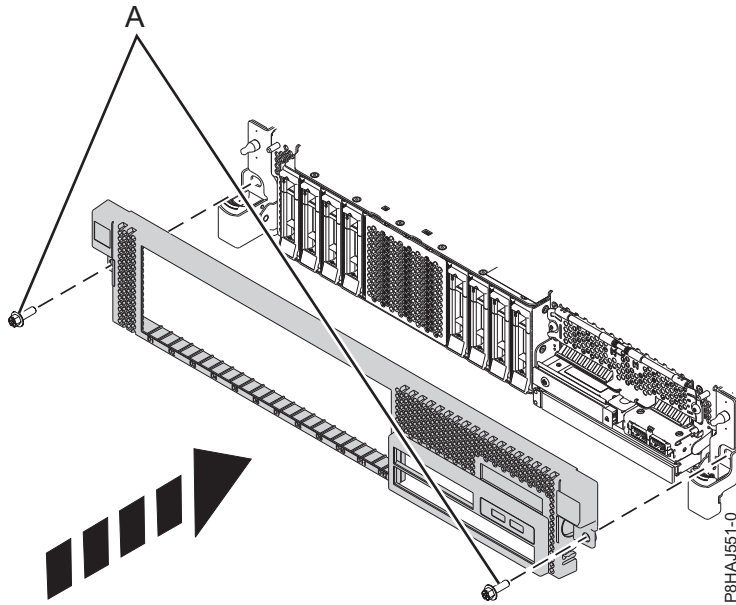

Figure 20. Installing the front cover
3. Close the release latches by pushing in the direction shown in Figure 20 on page 39. The cover snaps into place and has an indentation where you can hold onto it more easily.
4. Replace the shipping screws (A).